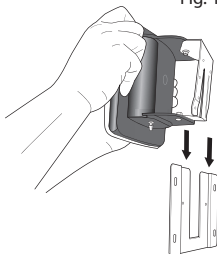

Fig. 2
5. Slide the wall clock onto the wall mount bracket, Fig 2.